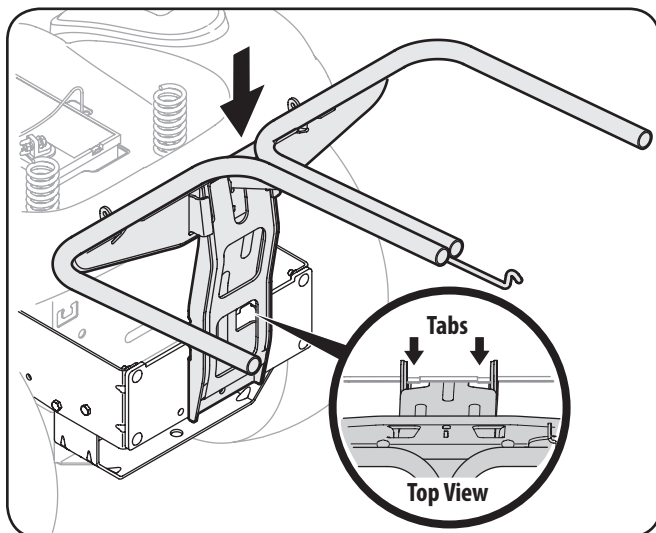

Figure 4-9
3. Install the bagger hanger assembly onto the mounting assembly on the tractor by hooking it over the hitch plate between the two tabs. See Fig. 4-9.